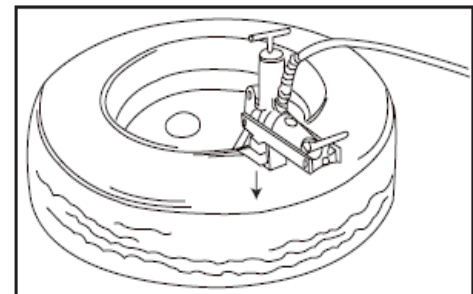

Figure 4
2. Continue to apply hydraulic pressure until the bead breaking ram extends about ¼ inch [6,35 mm] from the bead breaker. (See Fig 4.)